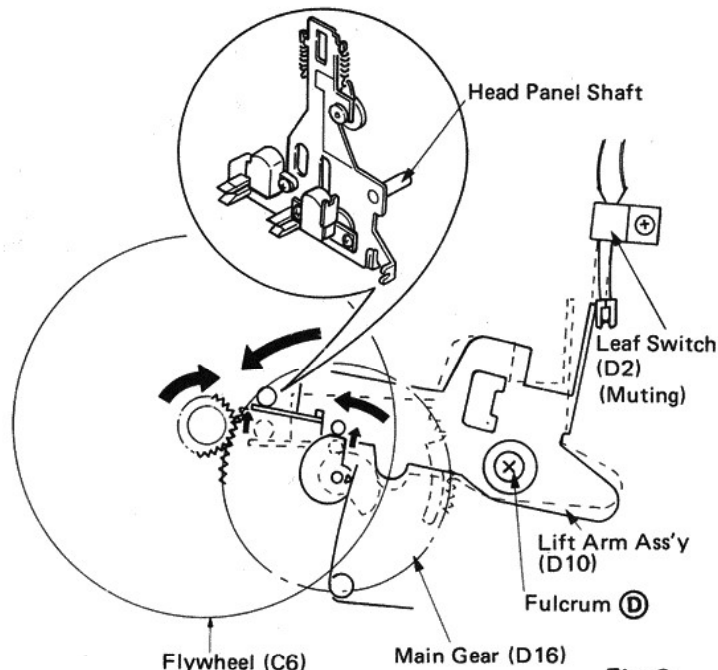

Fig. 3
- 4 As the main gear (D16) rotates, its cam raises the lift arm assembly (D10) pivoting on fulcrum ⑤.
- 6 Forward and backward motions of the head panel assembly are made by the head panel shaft. (Fig. 3)